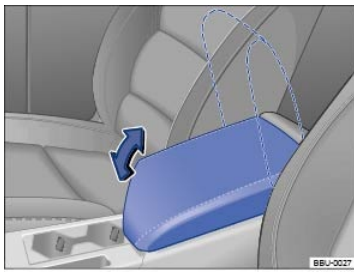

Fig. 132 In the front center armrest: Storage compartment.
- To *open*, lift the center armrest up ⇒ Fig. 132.